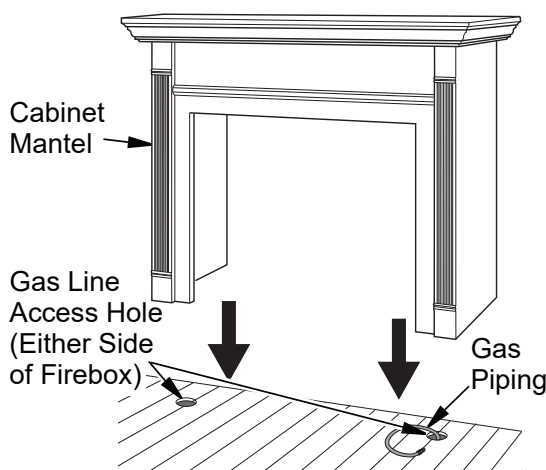

Figure 11 - Installing Cabinet Mantel (Mantel May Vary From Illustration)
2. Install gas piping to firebox location. See Gas Line Installation on page 16. You may have to cut an access hole in the floor or wall to run gas line to firebox. Make sure to locate access hole so cabinet mantel will cover it when installed (see Figure 11).